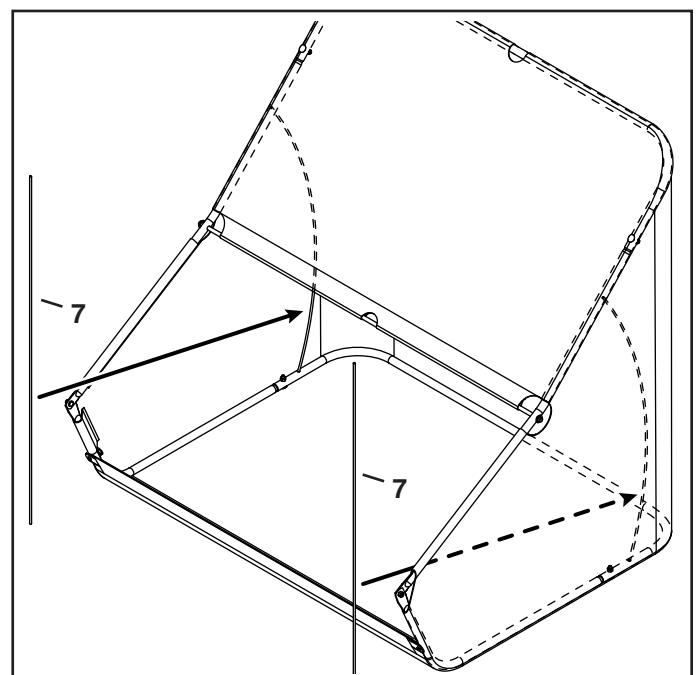

FIGURE 13
22. Insert the hopper support rods (7) into the holes in the upper hopper tubes and then into the rear bottom hopper tubes as shown in figure 13.
NOTE: The hopper support rods will bend about as much as shown in figure 13 when they are assembled.